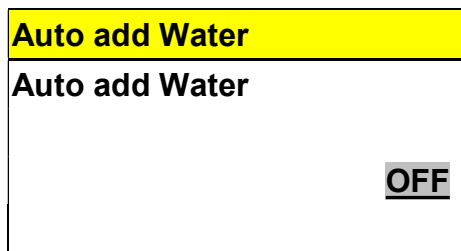

Figure 141
- B. Press  button to the editing mode as shown in Figure 141.